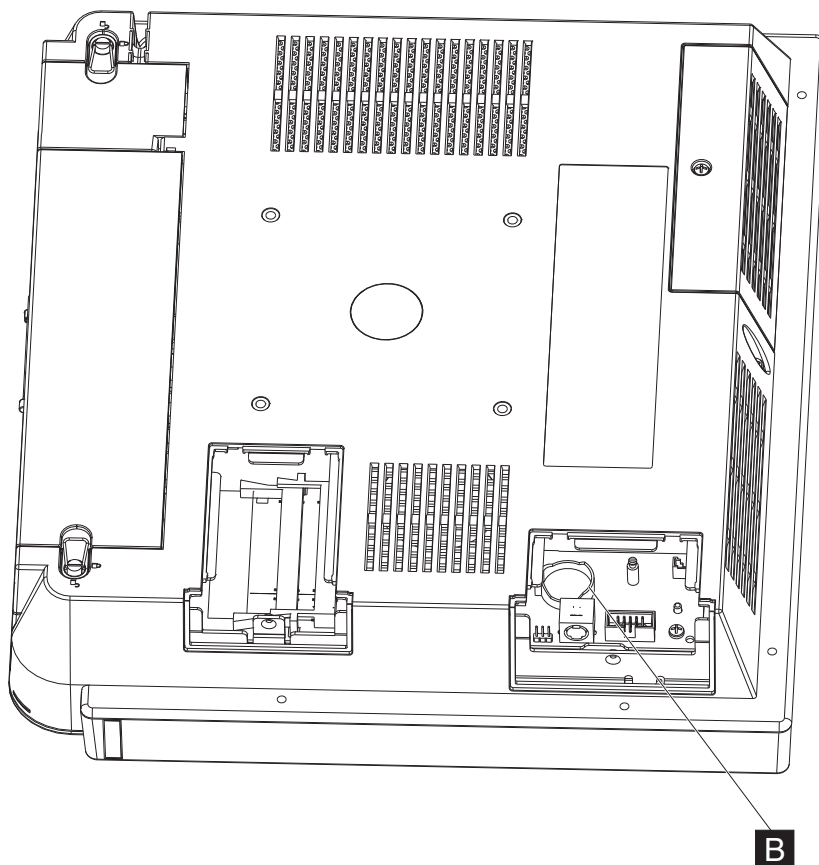

Figure 28. View of battery
3. Locate the battery on the system board (**B** in Figure 28).